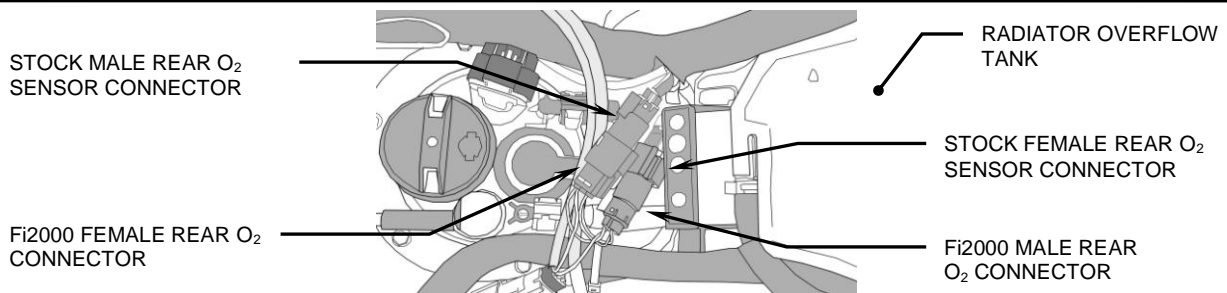

FIGURE 3
4. Locate the rear oxygen sensor connector and follow the harness up to the under-seat area behind the radiator overflow tank. Pull the stock connectors up from behind the overflow tank and disconnect, see Figure 3. The shorter Fi2000 oxygen sensor harness with male and female connectors will plug into each of these stock male and female connectors. Tuck the connectors back underneath the bracket behind the radiator overflow tank.